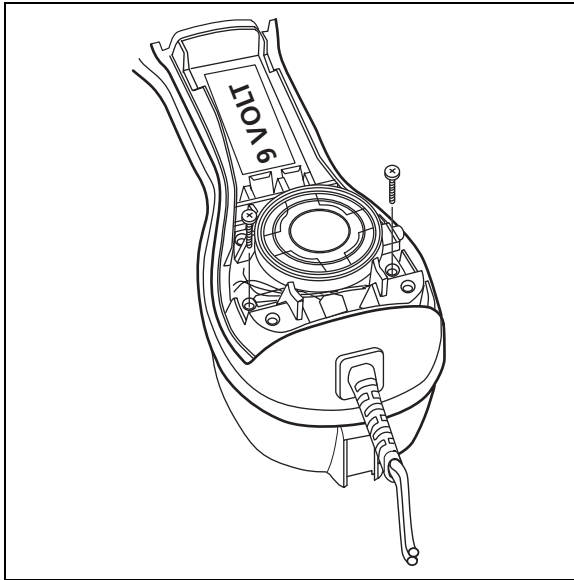

Figure 6. Removal/Installation of Line Cord Screws
- 3 Loosen the two screws that hold the line cord to the PCB (Figure 6).